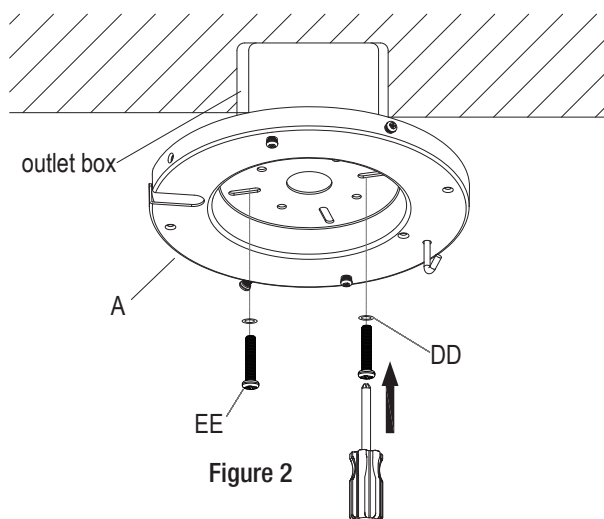

Figure 2
- Attach the mounting plate (A) to the outlet box (not included) with two screws(EE, not included) and washers(DD, not included) supplied with the outlet box. Ensure the mounting plate (A) is tight, level and secured. Figure 2.